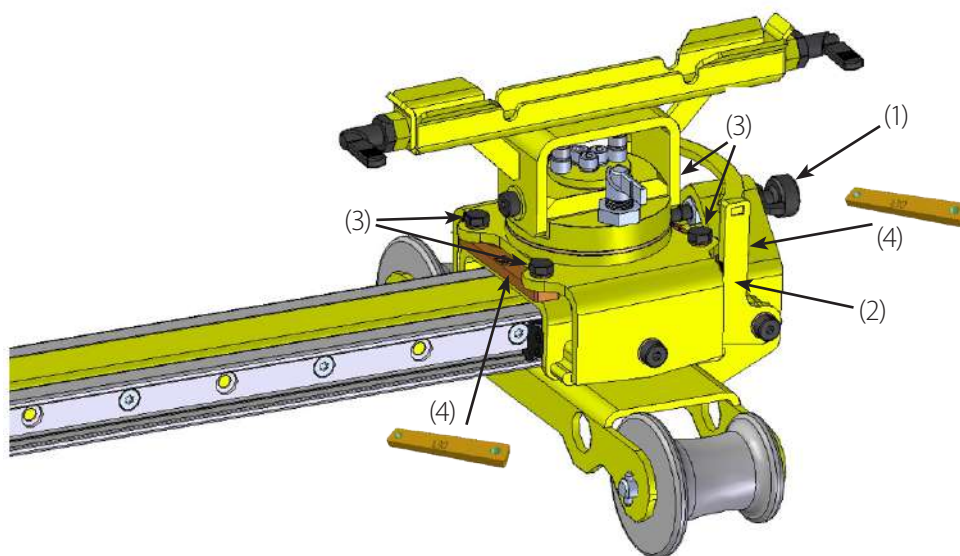

Fig. 29
1. Make sure the latch for the slide carriage is open on the unoccupied side of the trolley (Fig. 29).